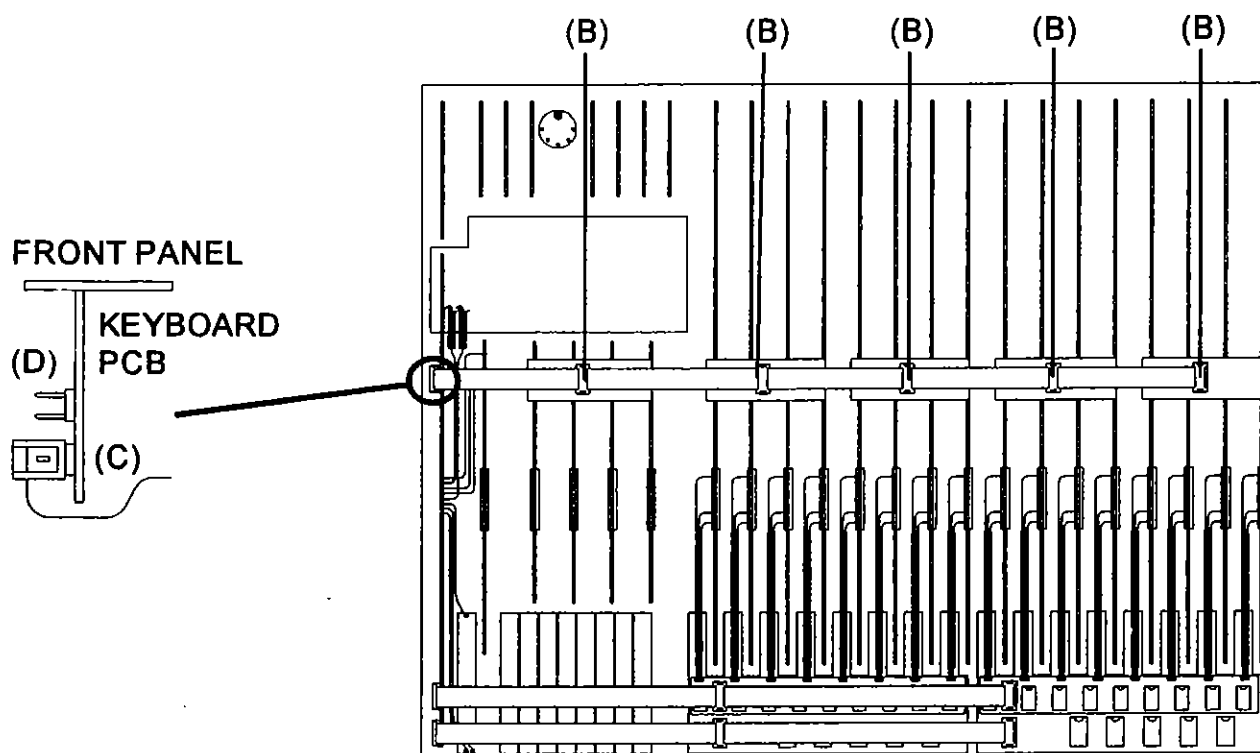

Fig. 19.
4. Unpack the Mute Slave harness (A) in the kit. Plug the harness into the mute slave connectors (B), and into connector CON9 (C) on the Keyboard PCB as shown. *see Fig. 19*. Refit new cable ties around each mute slave connector and mute slave PCB.